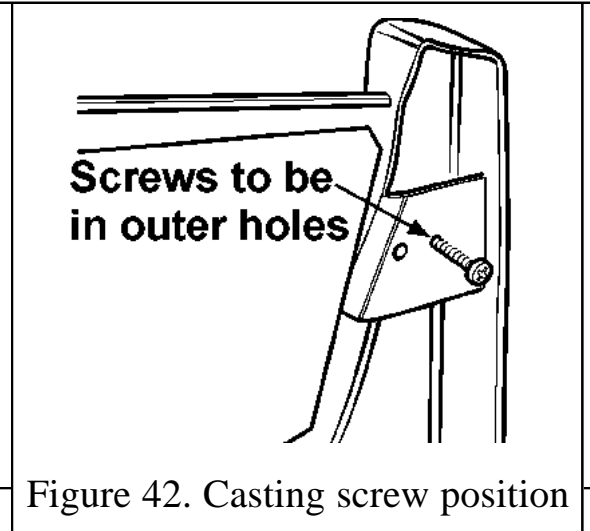

Figure 42. Casting screw position
14.5 Check that the two screws in the back of the fire front casting are in the outer threaded holes. If they are in the inner holes, relocate them (See figure 42).